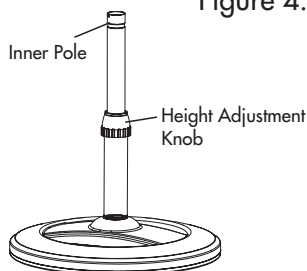

Figure 5.
4. Grasp the telescopic pole firmly and loosen the height adjustment knob. (Figure 5)
5. Raise the inner pole to desired height and tighten the height adjustment knob. (Figure 5)